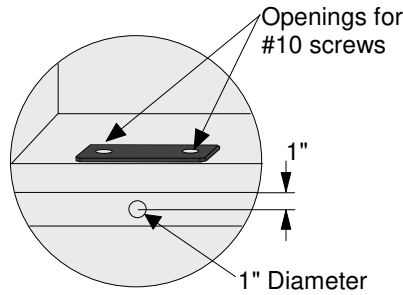

FIG. 1
1. Apply top mounting plate at the edge of the cabinet and mark position of mounting screws. Drill two holes for #10 screws. (13/64"). (FIG.1)
Measure 1" from the bottom of cabinet aligned with top mounting plate, drill 1" hole under the cabinet plate. (FIG.1)